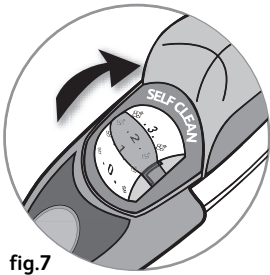

fig.7
- Set the steam control (**fig.7**) to the desired position, consulting the table below.